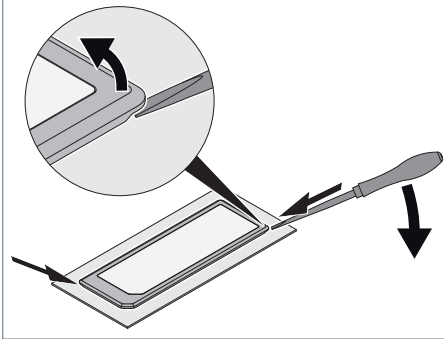

Fig. 6: Removing the luminaire.
- ▶ Insert a screwdriver into the front grooves and lever the luminaire out, see Fig. 6.